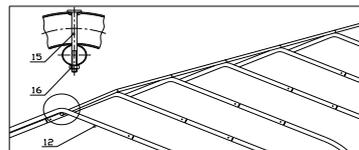

Figure 6
3. The Top Crests (12) are at the top of the assembled Bows. To anchor that portion of the roof to the Bows, attach (11) underneath the (12) on the End Bow using Carriage Bolt (15) and Nut (16). Fit (1) into (11) and connect to the top of the Middle Bow with (15) and (16). Continue connecting to the top until the last Middle Bow. At the end, connect (1) underneath the last (12). **See Figure 6**